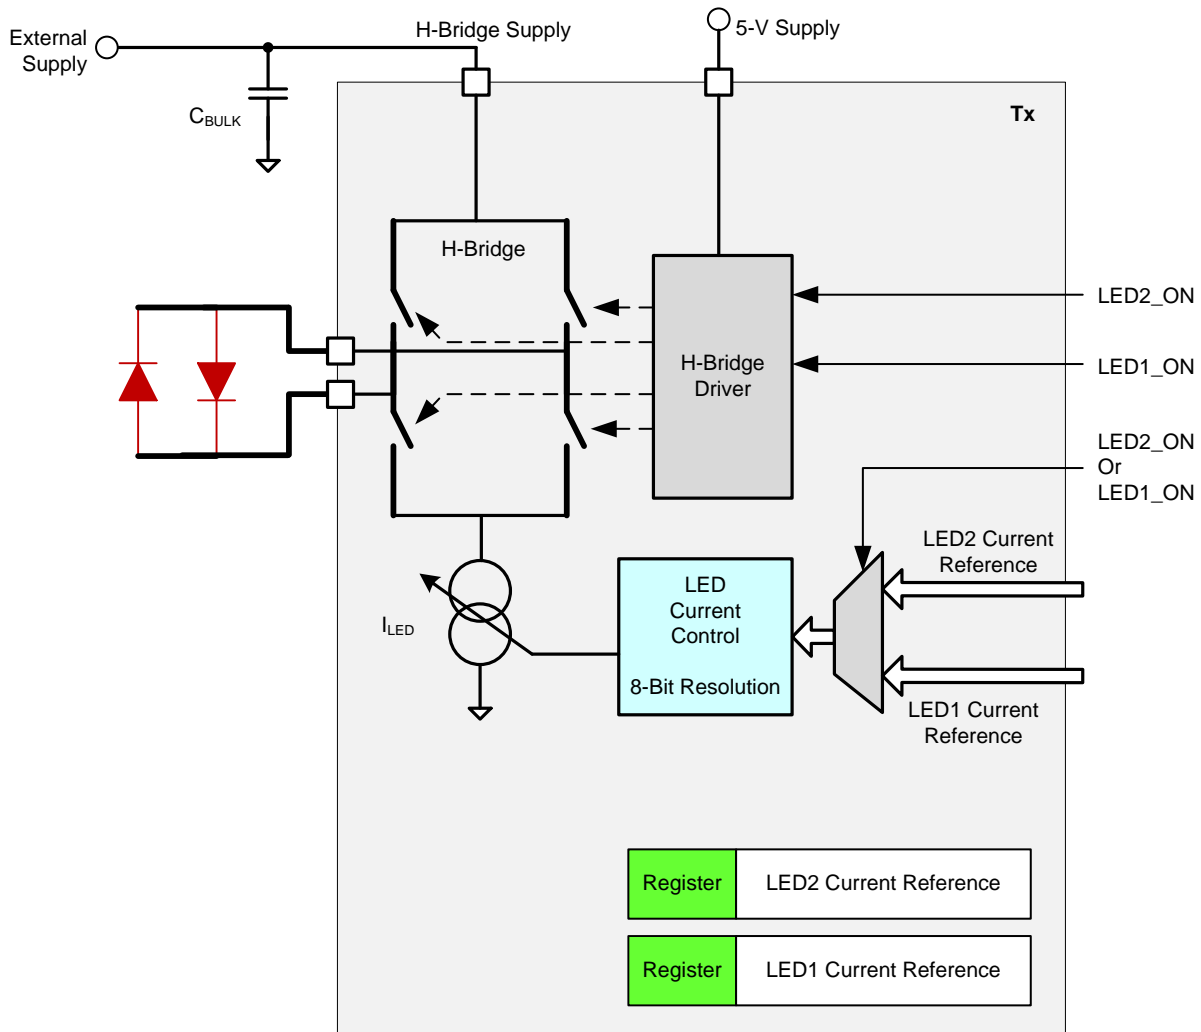

Figure 44. Transmit: H-Bridge Drive
- An H-bridge drive for a two-terminal back-to-back LED package, as shown in Figure 44. The minimum H-bridge supply voltage must be $2.5\text{ V} +$ (maximum voltage drop across the LED).